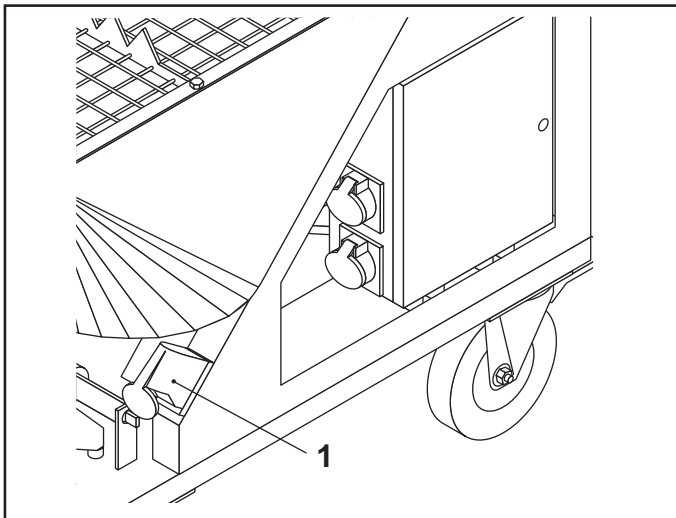

FIG.19
- Connect the power supply cable to the socket (FIG.19-REF.1) positioned on the machine frame.